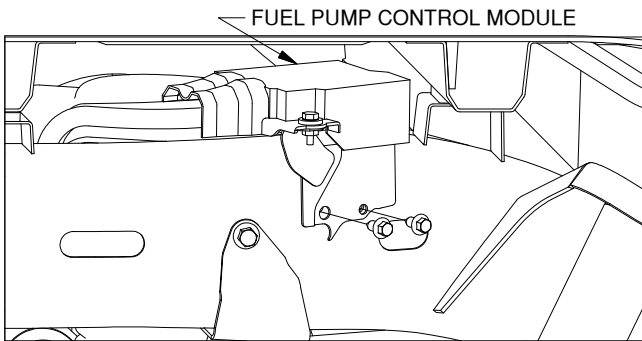

Figure A4: View looking into passenger side wheel well.
8. **Un-attach the fuel pump control module.** Locate the fuel pump control module on the frame inside the passenger side wheel well. Remove the two screws on the outside of the frame that are holding it in place, see Figure A4. Retain the screws for later replacement. Allow the module to hang freely to give clearance for cross member installation.